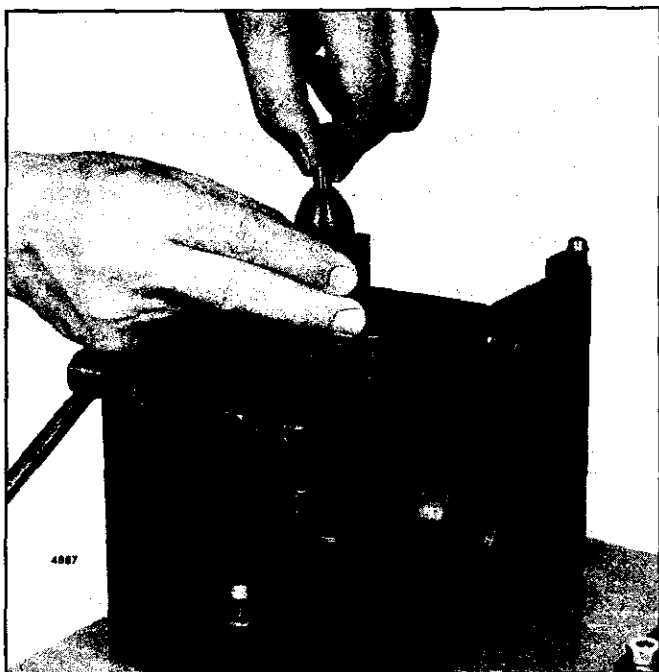

Fig. 32 - Tightening Injector Nut by Hand
20. Lubricate the threads in the injector nut and carefully thread the nut on the injector body by hand. Rotate the spray tip between your thumb and first finger while threading the nut on the injector body (Fig. 32). Tighten the nut as tight as possible by hand. At this point there should be sufficient force on the spray tip to make it impossible to turn with your fingers.